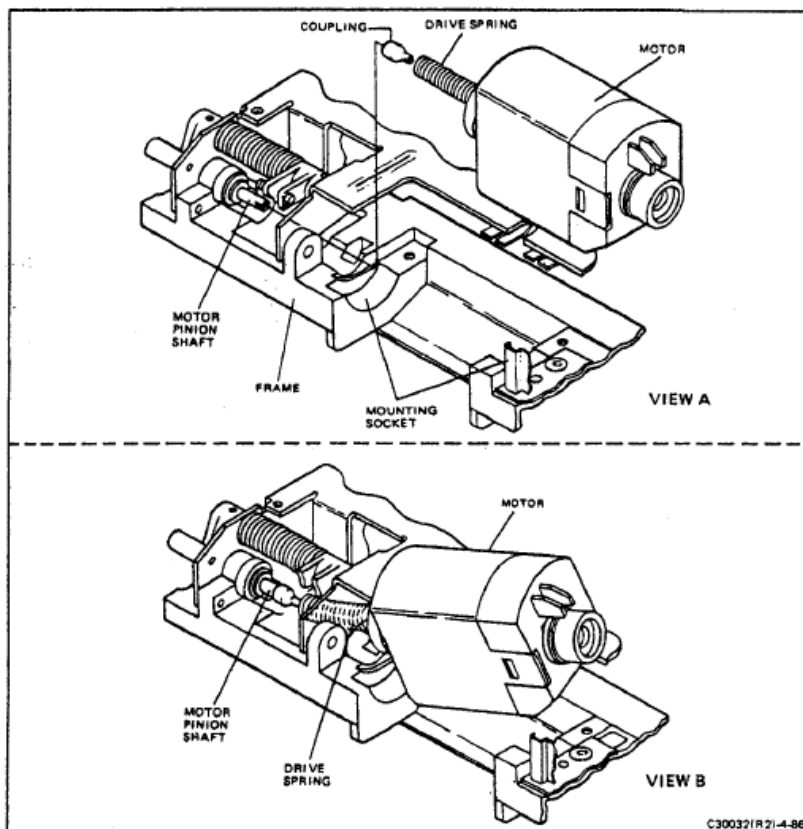

FIGURE 4-86 MOTOR INSTALLATION
2. Refer to Figure 4-86. Hold the motor as shown. The motor pinion shaft can be rotated by manually operating the gear train. Rotate the shaft so that the cross tang on the coupling spring is correctly aligned with the slot in the coupling. (Use a new plastic coupling whenever installing a motor.)